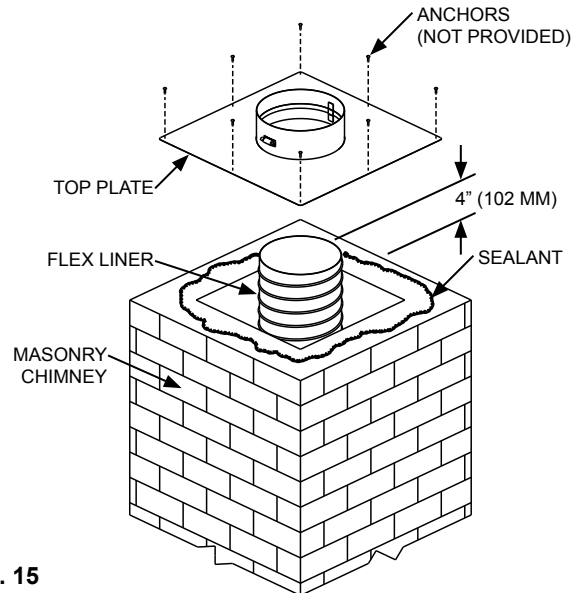

FIG. 15
- Step 2:** Slide the Top Plate over the liner and seal to masonry chimney. Trim plate as necessary or fold edges over the outside of chimney. Alternatively, the Top Plate can be secured to chimney using suitable anchors (See FIG. 15). Under extreme heat conditions the liner will expand. A minimum of eight (8) anchors is recommended.